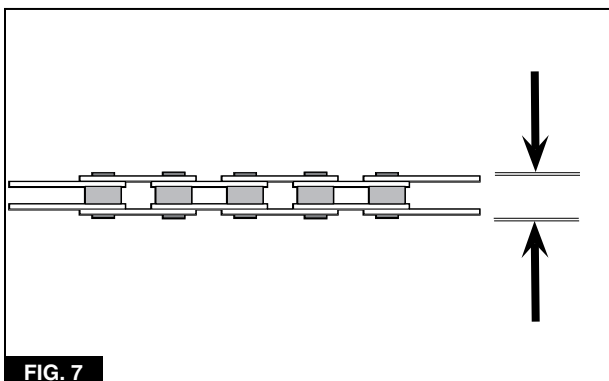

FIG. 7
7. Turn the tool handle, and drive the rivet until it is centered within the link. The distance from the outer side plate to the end of the rivet should be the same on each side of the chain (**Figure 7**).